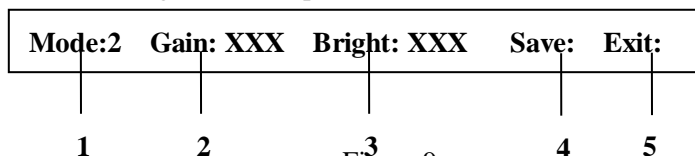

Figure 9
Setup: Press **KEY4 (M)**, **KEY1 (+)**, **KEY2 (-)** at the same time to activate user-defined Configuration menu (Figure9). Press **KEY4(M)** to activate **Mode: X** or **Gain: XXX** or **Bright: XXXX** menu, press **KEY1(+)** or **KEY2(-)** to set up activated item parameter.